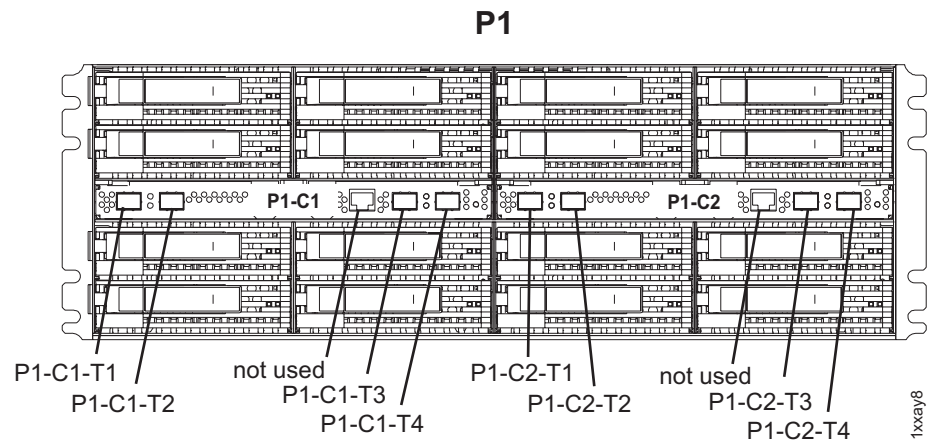

Figure 90. Storage enclosure locations
- c. Connect the FC-AL cables to the Fiber Channel Interface Card connectors. For connector locations, see Figure 90.